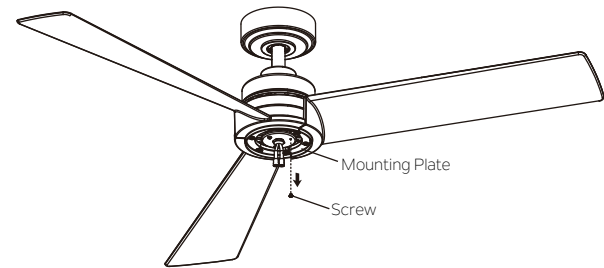

Fig. 17
Step 1. Remove one of three mounting plate screws preinstalled on mounting plate and keep for later use. Loosen the other two (do not remove).(Fig.17)